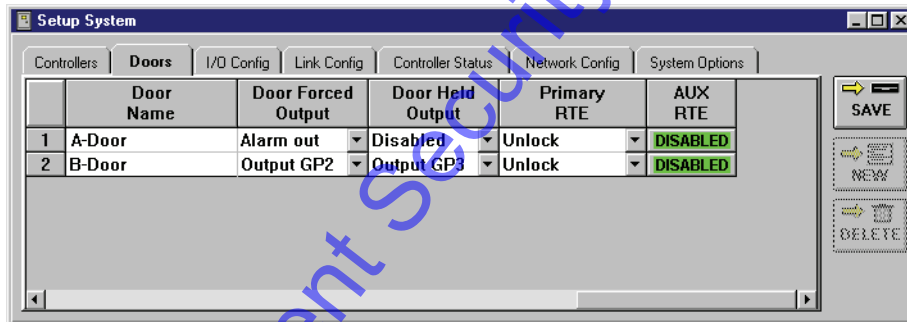

Figure 3-28: Set the Alarm Output Values
7. The resulting window should look similar to Figure 3-28.
- To set the primary and auxiliary RTE values, click on the Setup ⇒ System pull-down menu or click on the  tool bar button. Then click on the Doors tab (see Figure 3-28 on page 40 of this section. If the “Primary RTE” and “AUX RTE” columns do not appear in the window, use the scroll bar at the bottom of the window and scroll to the right until these columns appear.